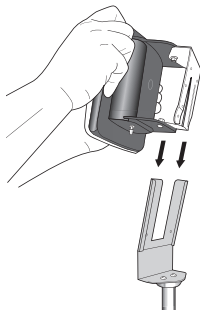

Fig. 9
9. Carefully slide the clock fixture onto the bracket, Fig 9. Take care to properly align the brackets as the clock is not further secured with screws or other hardware.